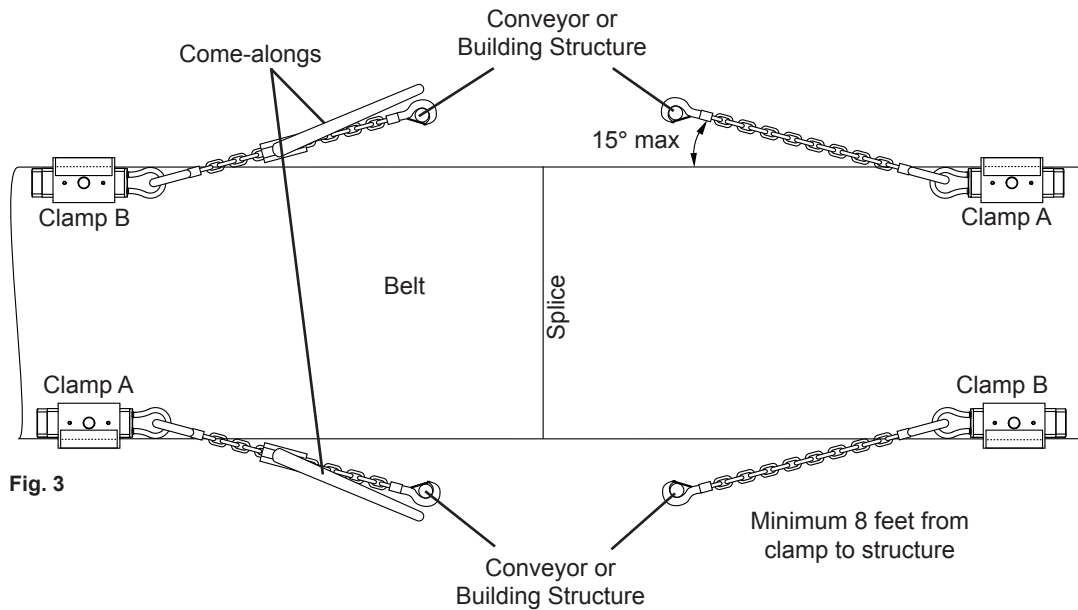

Fig. 3
- b. **Clamp-To-Structure:** On one side of the splice, attach chains to pull the loop of the clamp and to the conveyor structure (Fig. 3). On the other side of the splice, attach come-alongs to pull the loop of the clamp and to the conveyor structure. It is important to secure to the structure at least 2.5 m (8') back, to keep the angle of pull less than 15°.